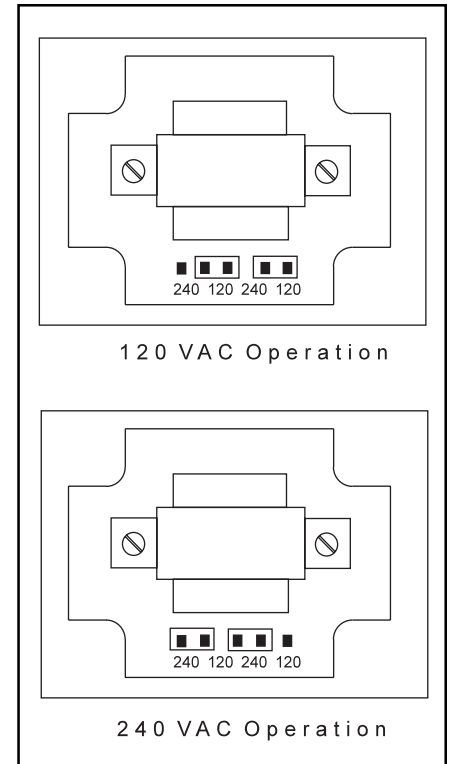

Figure 6: 120/240 VAC Selection
1. Configure the AC jumpers for either 120 or 240 VAC operation. See Figure 6.